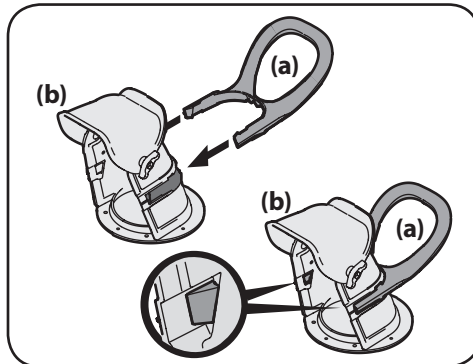

Figure 2-6
1. Place the chute handle (a) onto the chute (b) as shown in Figure 2-6. Be certain that the handle is aligned in the channel on the chute and the tabs snap into place.